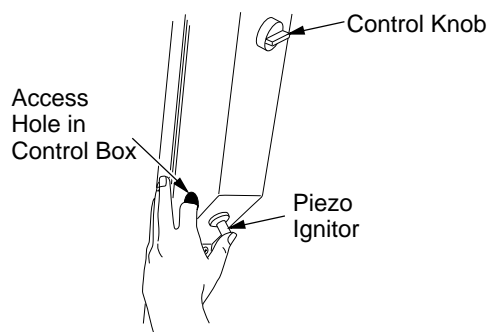

Figure 14 - Piezo and Control Knob Locations
9. Push knob in and quickly press IGNITOR button (see Figure 14). Repeat until heater is lit. This can be easily done by placing index finger in access hole on left of control cover and pushing ignitor with thumb (see Figure 14).